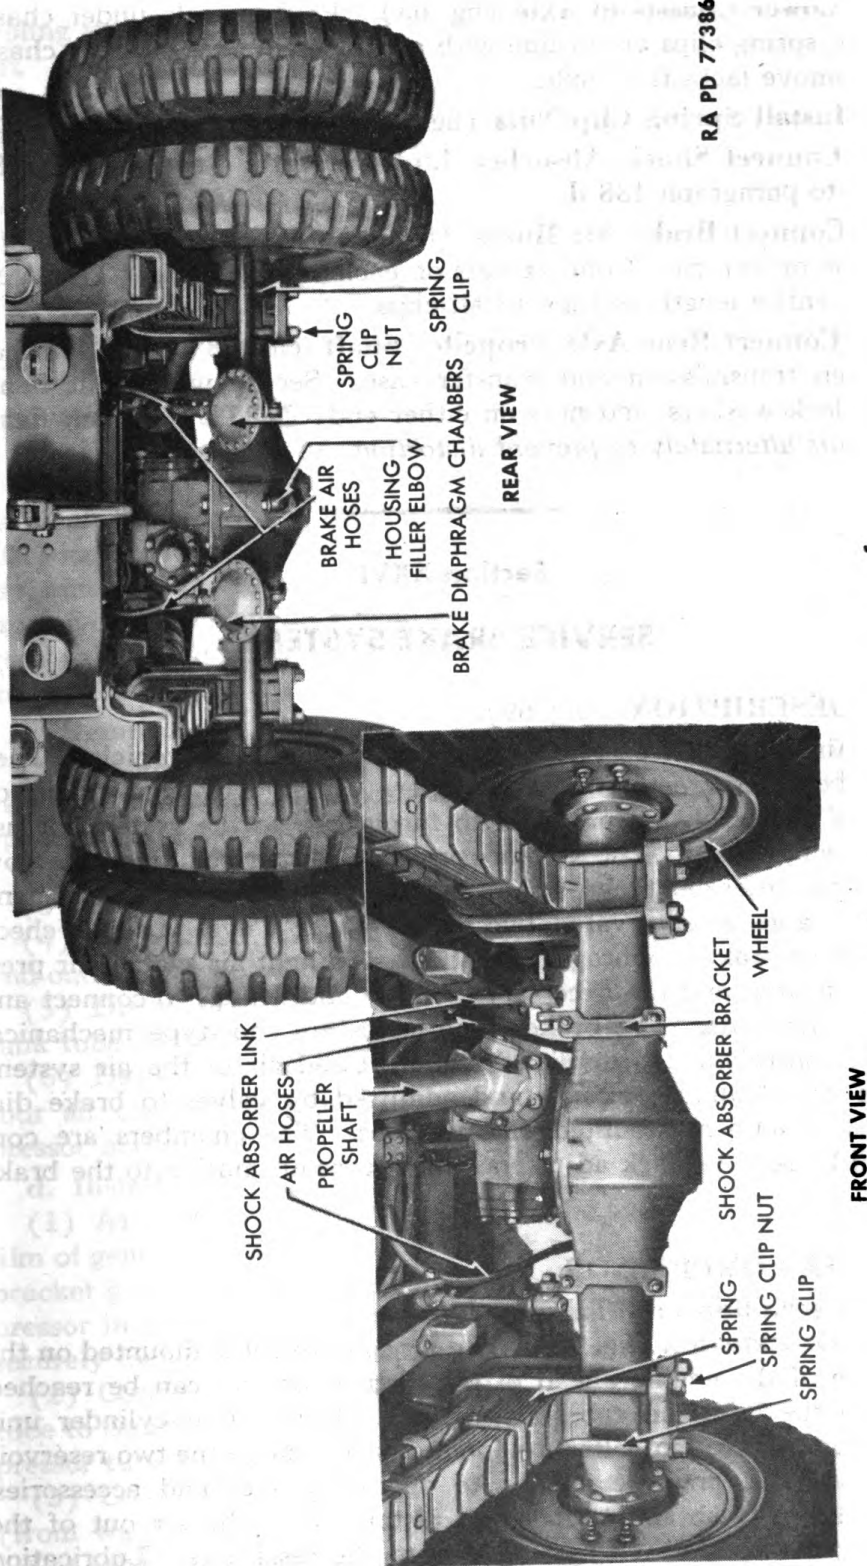

Figure 68 — Rear Axle Installed
a. **Description** (fig. 68). The rear axle is a full-floating double-reduction type designed for heavy duty. Pressure of vehicle load on axle shafts is prevented through the use of sleeves pressed into each end of axle housing. The shafts are splined on inner ends to engage corresponding splined differential side gears. Twelve studs attach outer end cap flanges to wheel hubs.
b. **Disconnect Brake Air Hoses** (fig. 68). Unscrew nut from fitting on each end of fitting or hose. Trace tubing its entire length and remove all clips. Work tubing or hose from vehicle.
c. **Disconnect Shock Absorber Link at Axle Bracket** (fig. 68). Refer to paragraph 139 c.
d. **Remove Spring Clip Nuts** (fig. 68). Refer to paragraph 138 b.
e. **Remove Chassis from Axle** (fig. 68). Raise axle slightly with floor jacks or other suitable lifting equipment. Attach chain fall or other type of power lift and lift chassis from axle. Remove axle.
f. **Remove Wheels** (fig. 68). Refer to paragraph 134 b.
a. **Install Wheels** (fig. 68). Refer to paragraph 134 c.
b. **Lower Chassis to Axle** (fig. 68). Position axle under chassis so that spring clips are in line with clip holes in axle. Lower chassis and remove jacks from axle.
c. **Install Spring Clip Nuts** (fig. 68). Refer to paragraph 138 c.
d. **Connect Shock Absorber Links at Axle Bracket** (fig. 68). Refer to paragraph 138 d.
e. **Connect Brake Air Hoses** (fig. 68). Work or place tubing in position on vehicle. Connect nuts on each end of fitting. Trace tubing its entire length and install all clips.
f. **Connect Rear Axle Propeller Shaft** (fig. 68). Position shaft between transmission and transfer case. Secure with eight flange bolts, lock washers, and nuts on either end. *NOTE: Tighten flange bolt nuts alternately to prevent distortion.*